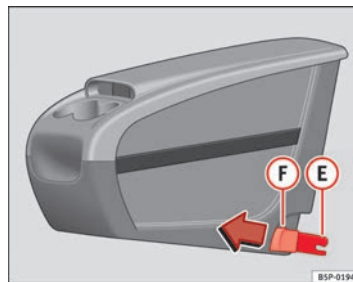
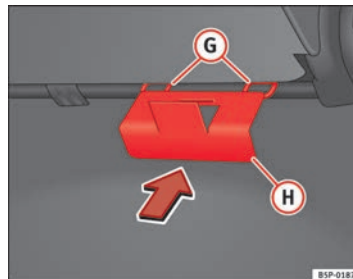

Fig. 113 Mobile storage compartment. Installation
Fig. 114 Mobile storage compartment mounting plate
- Fit the mobile storage compartment mounting plate **(H)** ⇒ Fig. 114 from the inside of the vehicle, through the rear part of the seat. It should be fitted between the backrest and the seat, in the central seat area.
- Set both mounting pieces together **(E)** ⇒ Fig. 113, with both mounting rings **(G)** ⇒ Fig. 114 and press hard until both the clips completely connect with the rings.
- Pull each of the buttons ⇒ Fig. 113 **(F)** on the clips (red buttons) forwards, until they snap out of place.